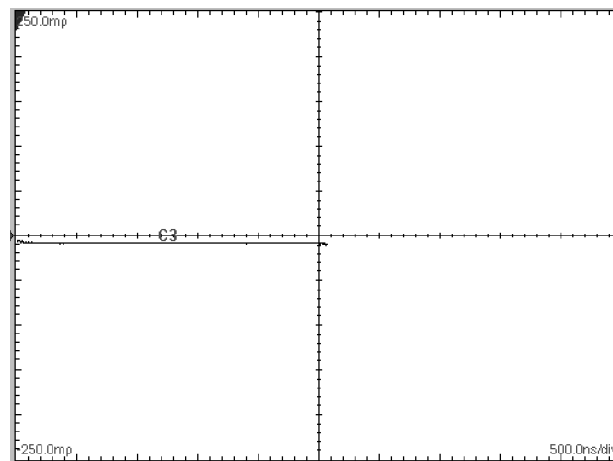

Figure 17: TDR step of undamaged sampling module
- If checking a TDR capable sampling module, attach a 50 Ω termination to the channel input and perform a TDR measurement of the attached fitting. Adjust the HORIZONTAL SCALE to 500 ns per division. This should display the entire TDR step from edge to edge. Display the step top at 40 mV per division and check for flatness. If the top is bowed, sagged, hooked, or tilted, assume static has damaged the module and service is required. See Figure 17.